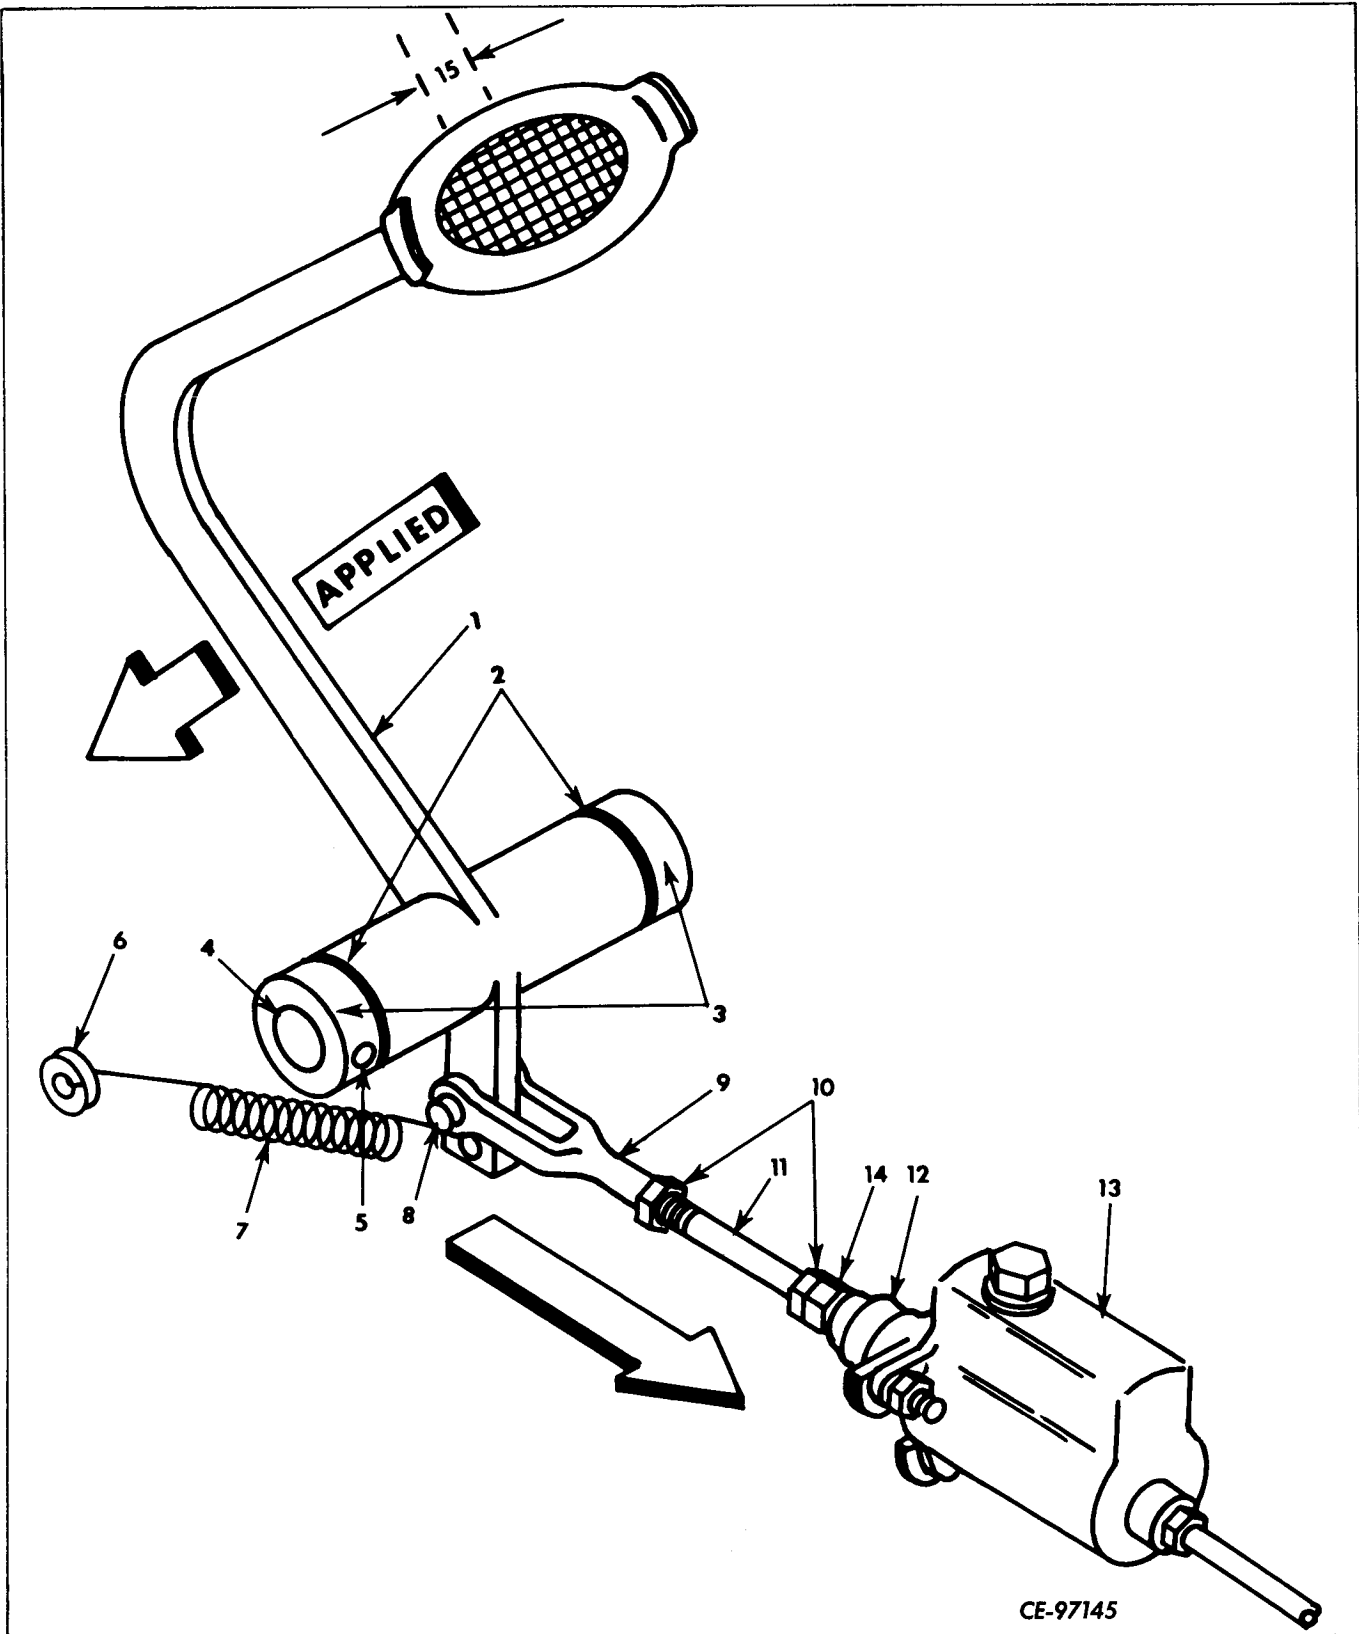

Figure 9-8
Legend for Figure 9-8
Remove return spring (7, Fig. 9-8) from mounting bracket (6) and brake pedal arm (1).
Disconnect the master cylinder brake rod (11, Fig. 9-8) from brake pedal (1) by removing cotter pin and clevis pin (8).
Position brake pedal (1, Fig. 9-8) and "O" rings (2) between mounting brackets (3) and insert pivot pin (4). Install pivot pin (4) aligning roll pin bore with bore in mounting bracket.